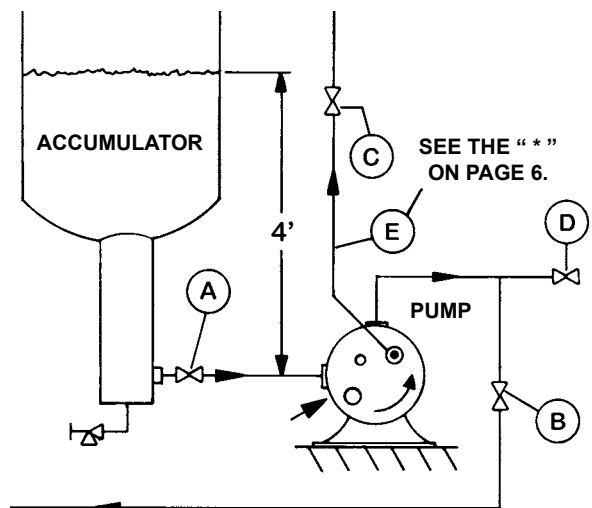
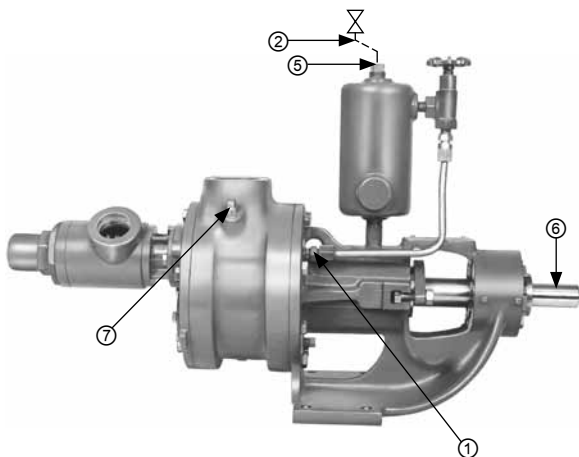

FIGURE 4
FIGURE 5
2. Close the inlet (suction) side shutoff valve. **A** in figure 4.
3. Close the discharge side shutoff valve. **B** in figure 4.
4. Close all other shut off valves in lines connected to the pump. Typical would be valve C in **line E* in figure 4** from the pump mounted return-to-tank type relief valve to the accumulator or the valve from an in line mounted safety relief valve to the accumulator or the valve in a pressurizing **line 2 in figure 5**, from the high pressure side of the system to the pump double sea oil reservoir.
For systems with vent (purge or bleed) valves (e.g. **D figure 4**) go to step 6; for systems without a vent valve, go to step 7.
6. A hose should be connected to any vent valve (e.g. **D in figure 4**) in the blocked off portion of the system. The open end of the hose should be placed under water in a tank containing at least 10 times as much water as there is ammonia in the blocked off portion of the system or the end of the hose should lead to a safe, well ventilated area. After the hose has been attached to the open end properly located, then open the vent valve. Check the open end of the hose to make sure the ammonia is venting. After ammonia has stopped venting, continue with step 8.
7. If there are no vent valves in the blocked off piping, the Viking Model 4925 ammonia pump should be vented by carefully loosening the fitting (**1 in figure 5**) on the lower end of the tubing that runs from the pump bracket to the double seal oil reservoir.
*This segment of line, (**E in figure 4**) between the return to tank pressure relief valve and the shutoff valve, C, should include a pressure relief valve vented to a safe area.
8. Carefully loosen any unions or tubing fittings in any other lines to the pump that have been blocked off by closing the shutoff valves, so that venting from these segments of the system can be accomplished. Typical of such lines would be that from the pump mounted return-to-tank relief valve to the accumulator, **E* in figure 4**, or a line, **2 in figure 5**, from the high pressure side of the system to the double seal oil reservoir.
9. Carefully loosen the fill plug. **5 in Figure 5**, in the top of the double seal oil reservoir.
10. After the ammonia has stopped venting turn the pump shaft, **6 in figure 5**, over for at least 10 complete revolutions. This will make sure that there is no pocket of accumulated ammonia that has not been exposed to a venting point.
11. Carefully loosen the plugs, **4 in figure 6 and 7 in figure 5**, in the suction and discharge ports of the pump. If ammonia continues to vent, wait until the venting stops. When venting from all the loosened connections stops, then complete the loosening of the fittings and complete the removal of the plugs.